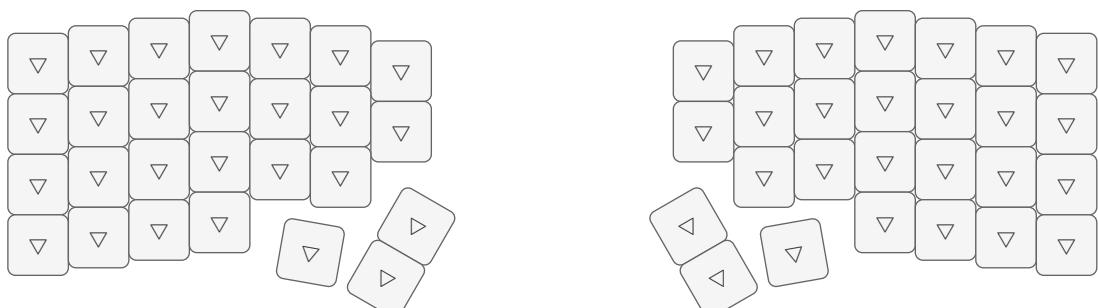

Figure 9: Layout for layer 3
- Layer 0 single thumb key (figure 9)